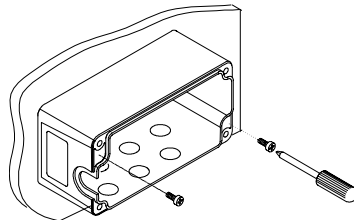

Figure 8 - Junction box mounting
- 2) Align the junction box and insert the two self-threading screws with their washers and screw them into the panel until tight (see Figure 8).